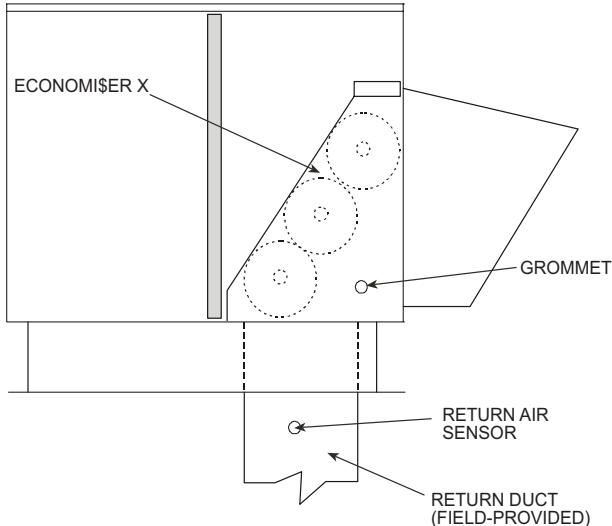

Fig. 3 - Return Air Temperature Sensor Mounting Location
3. Using the screws provided in the CRTEMPSON05A00 kit, mount the differential temperature sensor in the return air duct as shown in Fig. 3.